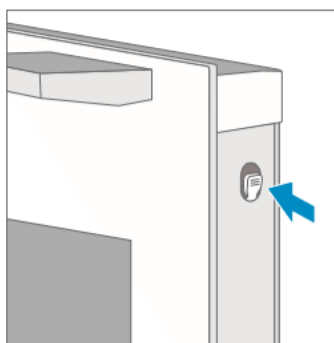

Figure 1: Plastic clip
1. Press the right and left sides of the door (figure 1);